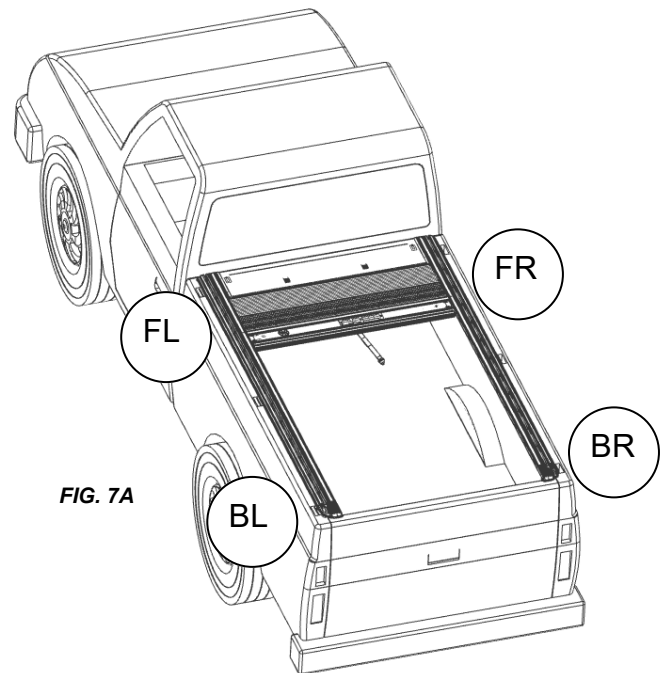

FIG. 7A
Slide the clamp extensions on the tailgate and cab end of each rail as pictured in Figure 7A-7E. Each clamp extension is labeled for front left (FL), front right (FR), back left (BL), and back right (BR). The extensions go on the corners shown in Figure 7A.